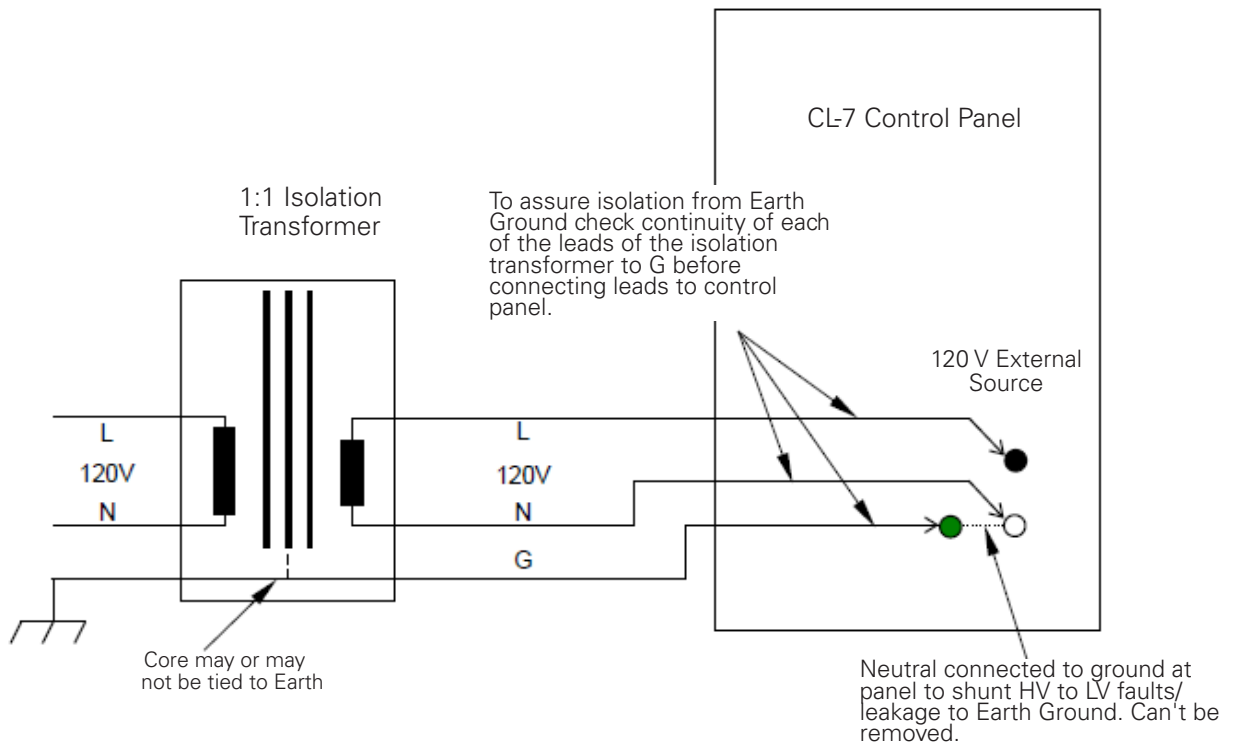

Figure 1-3. 120 Vac Application with Eaton's Cooper Power series 120 V Control - Option 2.
The 120 Vac external source must be completely isolated. In most cases an isolation transformer is needed. This isolation transformer must isolate both the neutral and line on the secondary side. Also, the neutral and ground on the secondary side should not be bonded or connected. To check isolation from earth ground, check the continuity of each lead on the isolation transformer with respect to ground (G). Check this before connecting the leads to the control panel. See Figure 1-3.